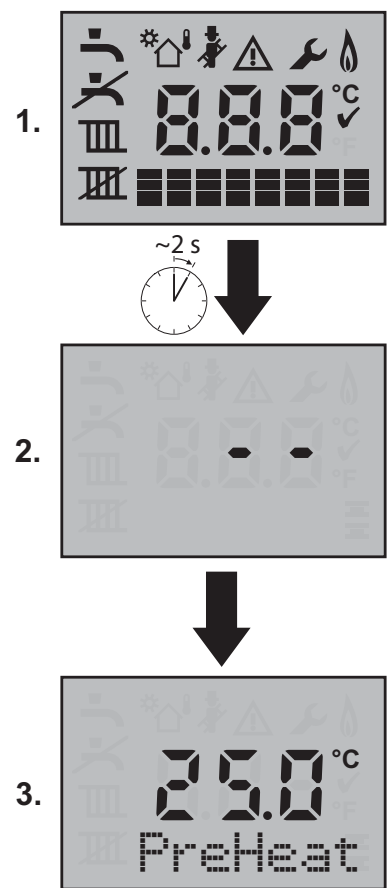

Fig. 61 Boiler start up screen
- ▶ Turn on the mains power supply, initially the “Boiler start up screens” will be displayed (refer to figure 61).